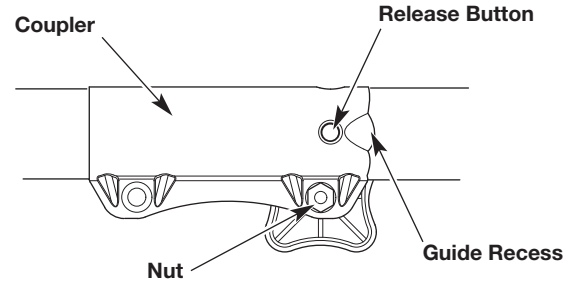

Fig. 5
**NOTE:** Aligning the release button with the guide recess will help installation (Fig. 5).
**NOTE:** Do not tighten the nut (Fig. 5).
2. Press and hold the release button (Fig. 5).